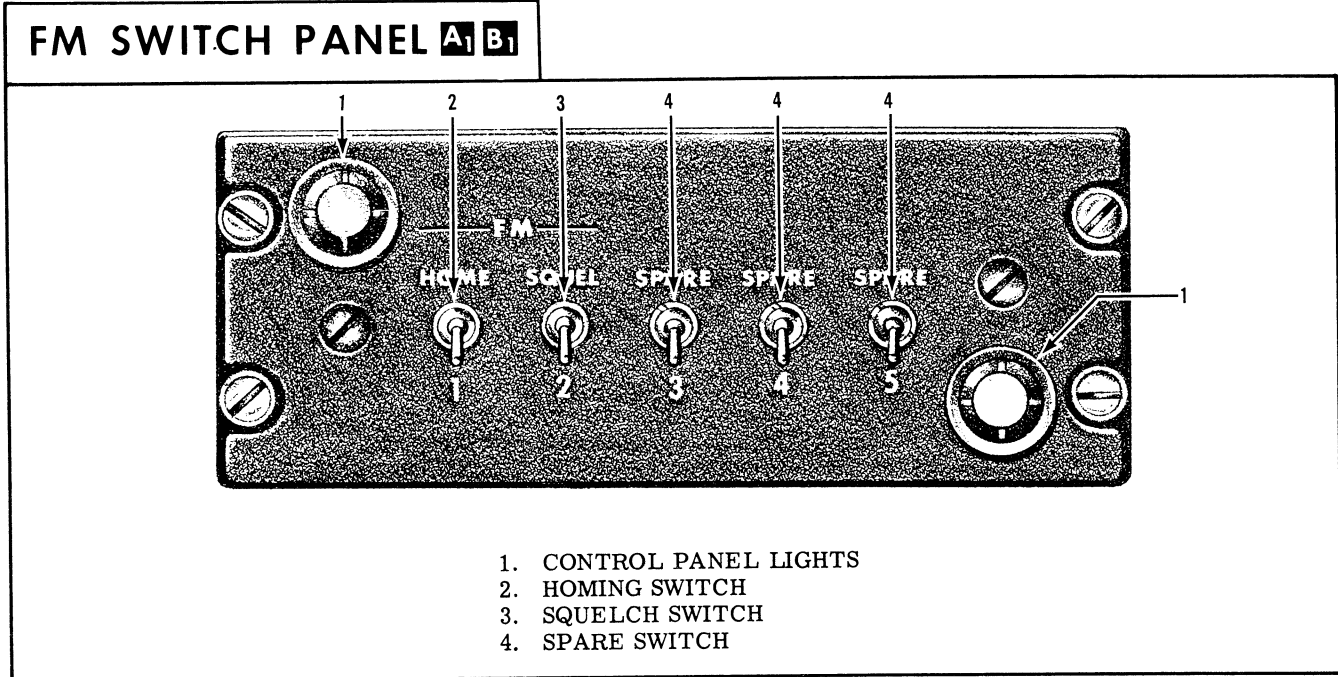

Figure 4-23.
numbered 1, 2, 3, 4, and 5, and their functions are as follows: No. 1 toggle switch is marked HOME (2, Figure 4-23). When this switch is placed in the up position it energizes homing circuits, disconnects the communication antenna, connects the homing antenna through a keyer to the receiver-transmitter unit receiver input, and disables the FM transmitter. When the switch is placed in the down position, the homing operation becomes disabled, allowing the radio set to return to normal operation. No. 2 toggle switch is marked SQUEL (3, Figure 4-23). In the up position, this switch squelches the receiver output. In the down position, the receiver is not squelched, allowing background noise to be heard. Toggle switches 3, 4, and 5 are not wired into the system and do not apply to this installation.
2. Homing switch on radio switch panel (2, Figure 4-23) up to HOME position and tune to desired frequency. The code D and U signal or steady 400 cps on course tone should be heard in the headset. When the code D is heard in the headset, the pilot turns left to head toward the station. When the code U is heard, the pilot turns right to head toward the station.